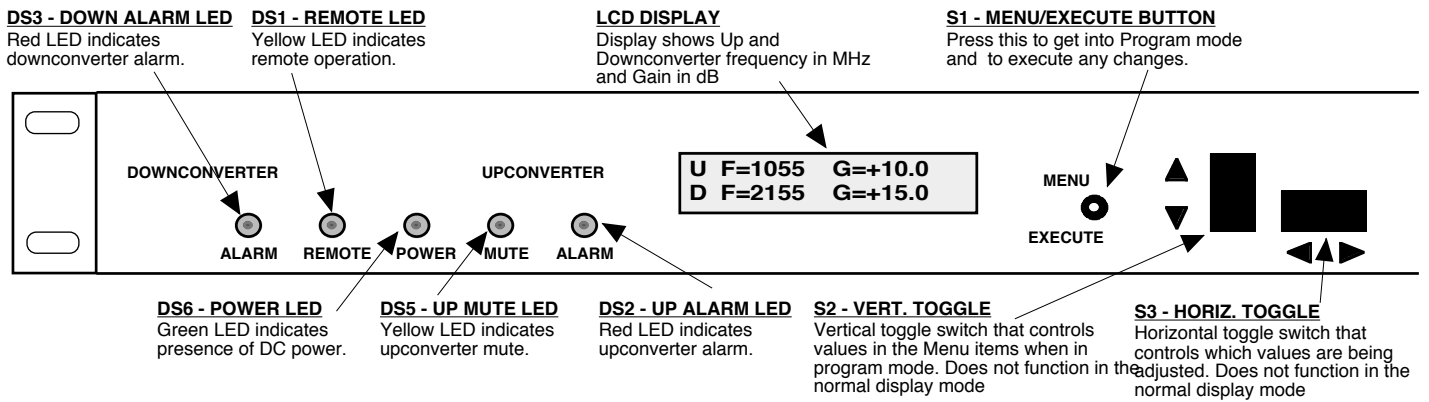

Figure 2.2 Model 2017-0923#-370 Front Panel Controls and Indicators
- 7.) Be sure DS6 (green, DC Power) is on and DS2 (red, Alarm) is off (Figure 2.2).
2.5.1 Functions - This section describes operation of the front panel controls. There are three operator switches, the LCD display and alarm indicator LEDs. All functions for the equipment are controlled by these components. The functions are (see Figure 2.2):
Alarm indications appear on the LEDs (see figure 2.2).